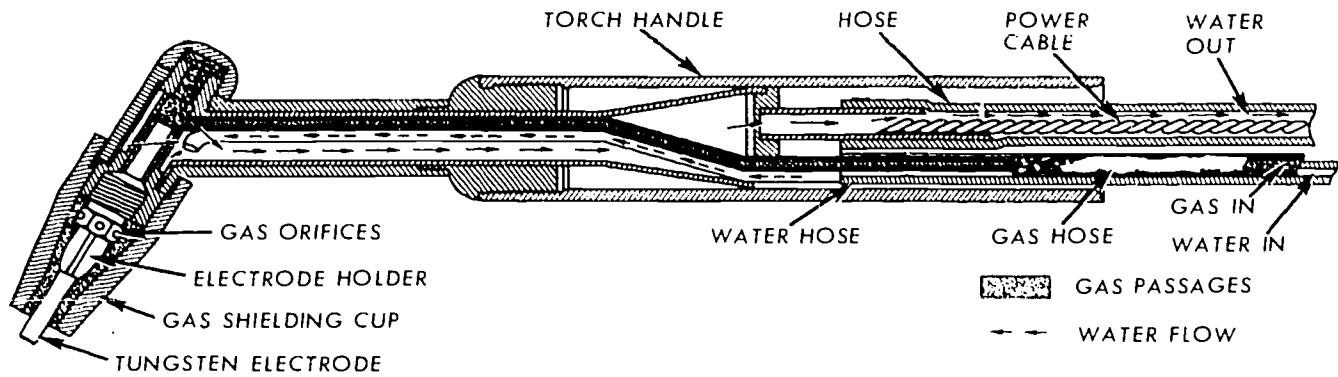

Figure 5-5. Water-cooled, inert-gas-shielded welding torch.
**Water-cooled torch.** The water-cooled torch, shown in figure 5-5, is designed to operate at current ratings from 100 to 300 amperes. Water cooling of the torch and power cable for inert-gas-shielded welding makes it possible to use lightweight parts capable of carrying the rated current without danger of overheating. The power cable is located in the water discharge hose. Water flow should be from 1 to 2 pints per minute. A special fuse of about 45 amperes is installed in the power leadline to the torch to protect the equipment from overheating in case of water stoppage. The torch head consists basically of these three parts: (1) the collet or electrode holder, (2) the gas-shielding cup, and (3) the tungsten electrode. The shielding gas enters through a plastic hose fitted to the rear of the torch handle, passes through the body, and emerges from the gas orifices in the torch head. It is then guided down toward the weld or molten pool by the gas-shielding cup that surrounds the electrode.